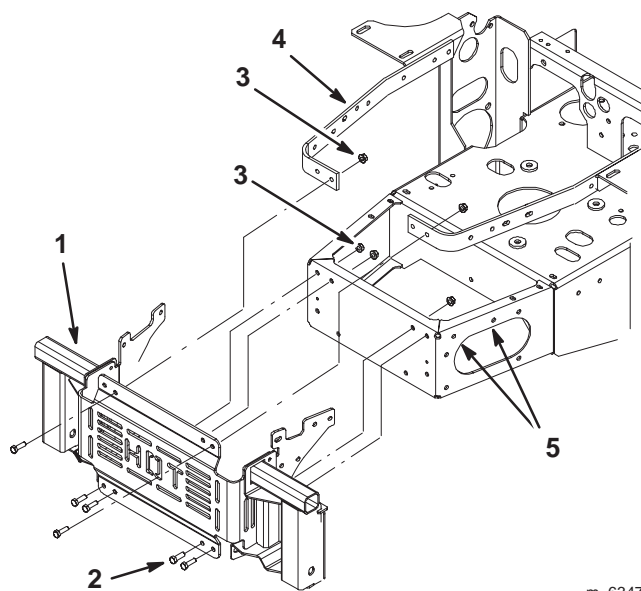

Figure 5
3. Using the bagger mounting assembly as a template, install the bagger mounting assembly to the engine straps with 2 bolts (5/16 x 1 in.) and 2 flange nuts (5/16 in.) (Fig. 5).
4. Install the bagger mounting assembly to the back of the bumper with 4 bolts (5/16 x 1 in.) and 4 flange nuts (5/16 in.) (Fig. 5).
6. Remove the bagger mounting assembly (Fig. 5).
7. Drill 4 pilot holes, 1/8 in. diameter, at the marked locations. (Fig. 5).
8. Drill 4 holes, 13/32 in. diameter, through the 1/8 in. pilot holes. (Fig. 5).